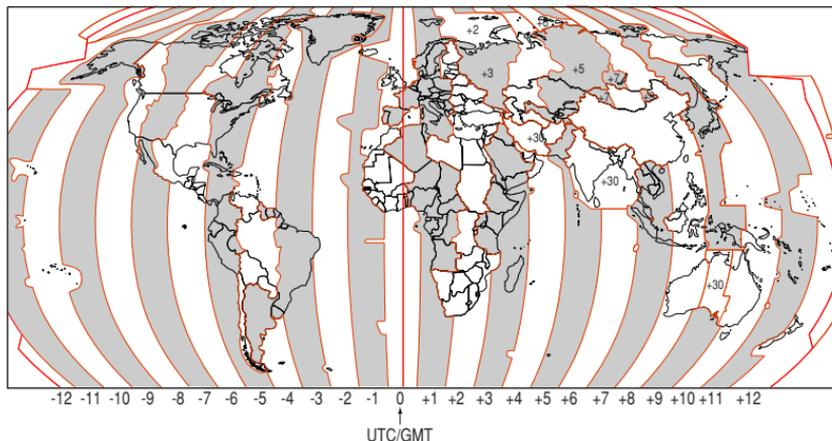

Figure 4. Offset time table
4. Turn the **Channel Selector** knob to select time offset from UTC. See Figure 4 to find your offset time from UTC. If 0:00 is assigned, the time is the same as UTC (Universal Time Coordinated or GMT Greenwich Mean Time)